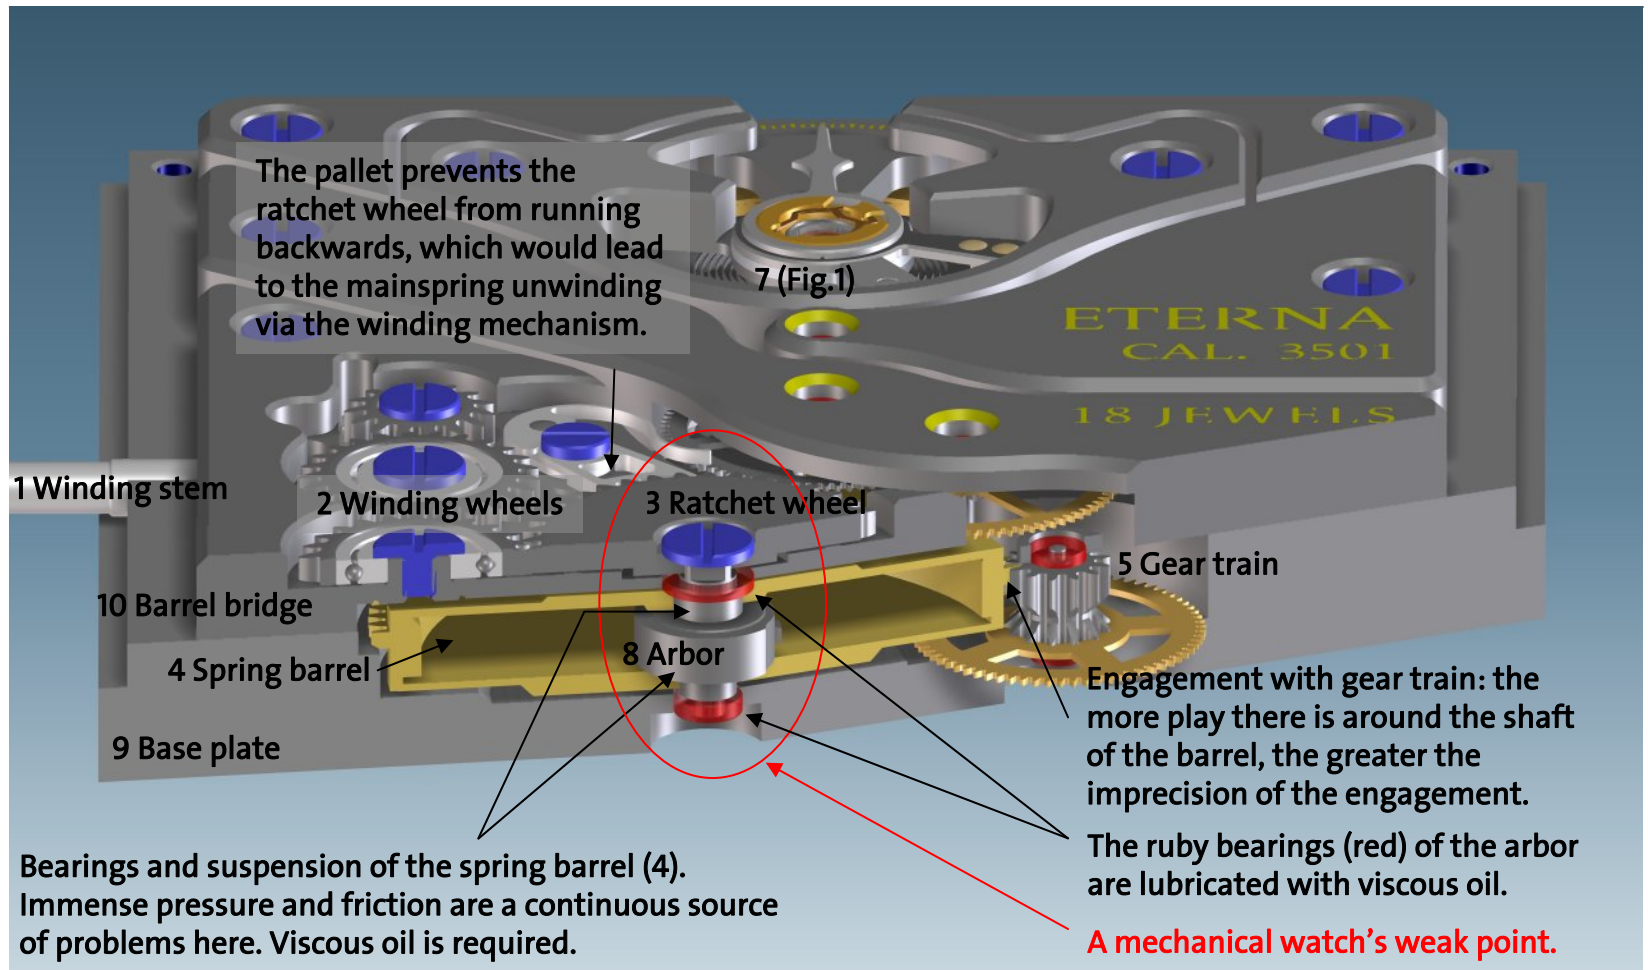

Fig. 2
Description of Fig. 2
The **winding wheels (2)** and **ratchet wheel (3)** cause the **arbor (8)** to turn the **mainspring** (not shown in Fig. 2) in the **spring barrel (4)**. The arbor fulfils two functions in this conventional design: it acts as the mainspring's winding axis and serves as the suspension/bearing of the **spring barrel (4)** (shown in yellow).